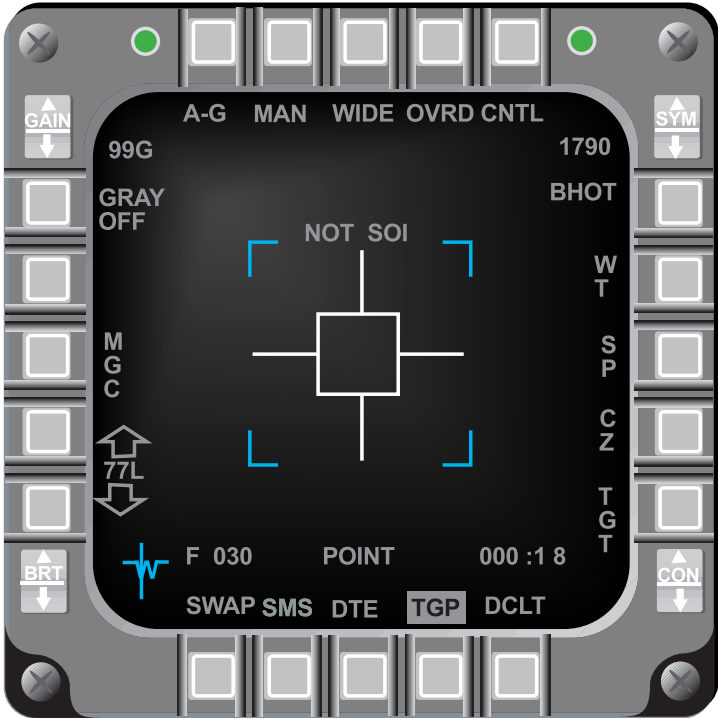

Figure 4-2 TGP Base Page
The TGP Base page (Figure 4-2) is accessed via the Master Format Menu page.
OSB #6 on the TGP Base page (Figure 4-2) was modified to allow the TGP sensor to be swapped between IR (baseline) and TV when the aircraft is loaded with a TV capable TGP. For IR only TGPs, OSB #6 toggles between WHOT and BHOT; For TV capable TGPs OSB #6 rotates between WHOT → BHOT → TV. OSB #7 selects the tracking polarity. For IR only TGPs, OSB #7 toggles between Neutral Track (NT) and White Track (WT). With a TV capable TGP load, the OSB #7 rotary steps between NT → WT → BT (Black Track).